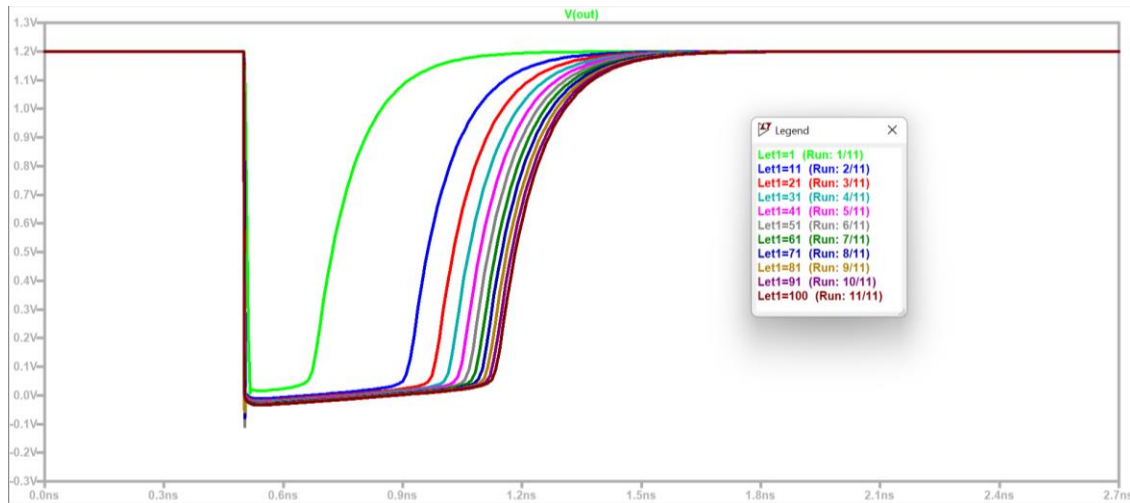

Fig. 17. Simulation results for different LET values
20. Run the simulation and observe the output signal (*out*). To display the legend: right click in the simulation results window, View / Step Legend. From Fig. 17 it can be concluded that with the increase of the LET value, the width of the generated pulse increases, ie. the transistor stays in *on* state longer because the SET-causing particles have more energy.